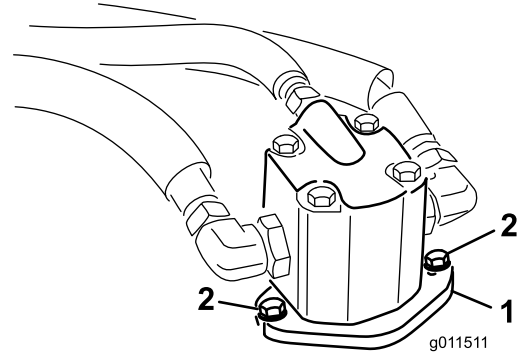

Figure 70
4. Remove the bolts securing the hydraulic motor to the cutting unit (Figure 70). Lift the motor off of the cutting unit and lay it on top of the cutting unit.